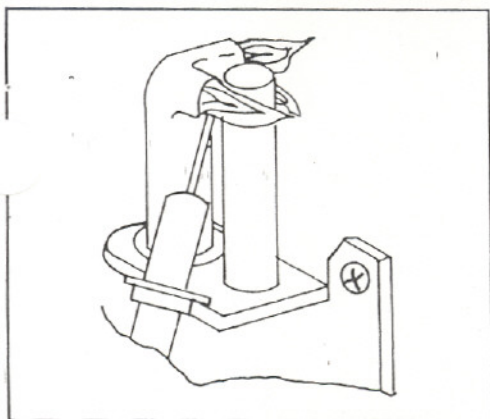

Figure 13
2. Adjust the pilot key to provide properly sized flame. See Figure 13.
Periodically visually check the flame of the pilot and burner, making sure the flames are steady; not lifting or floating. The flame color should be blue with yellow tips. The top 3/8" of the pilot thermopile should be covered with flame. See Figures 13 and 14.